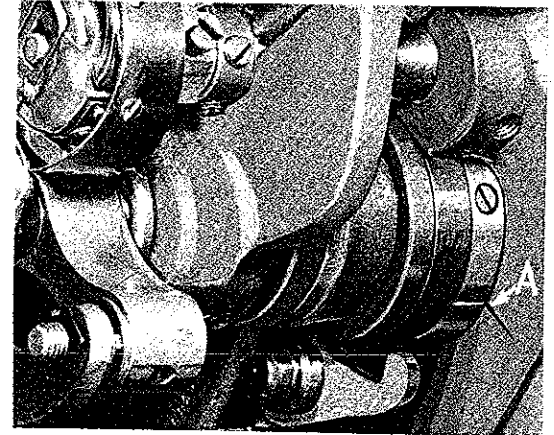

Fig. 27
Tip the machine back against the rest pin and turn handwheel until the needle bar is at the bottom of its stroke. The timing line "9" on the feed drive eccentric should line up with the mark on the wall of the casting (A, Fig. 27).
5. Hold the handwheel securely and turn the lower main shaft until the timing mark "9" on the adjustable feed driving eccentric and mark on the casting wall line up (A, Fig. 27).